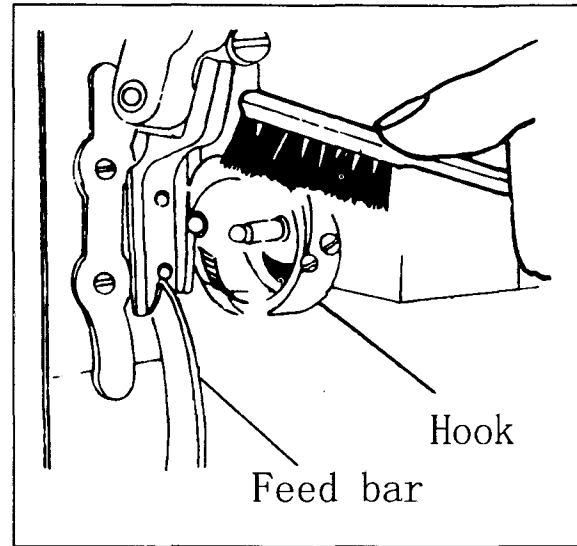

Fig. 32
1) Cleaning feed dog (See Fig.32)